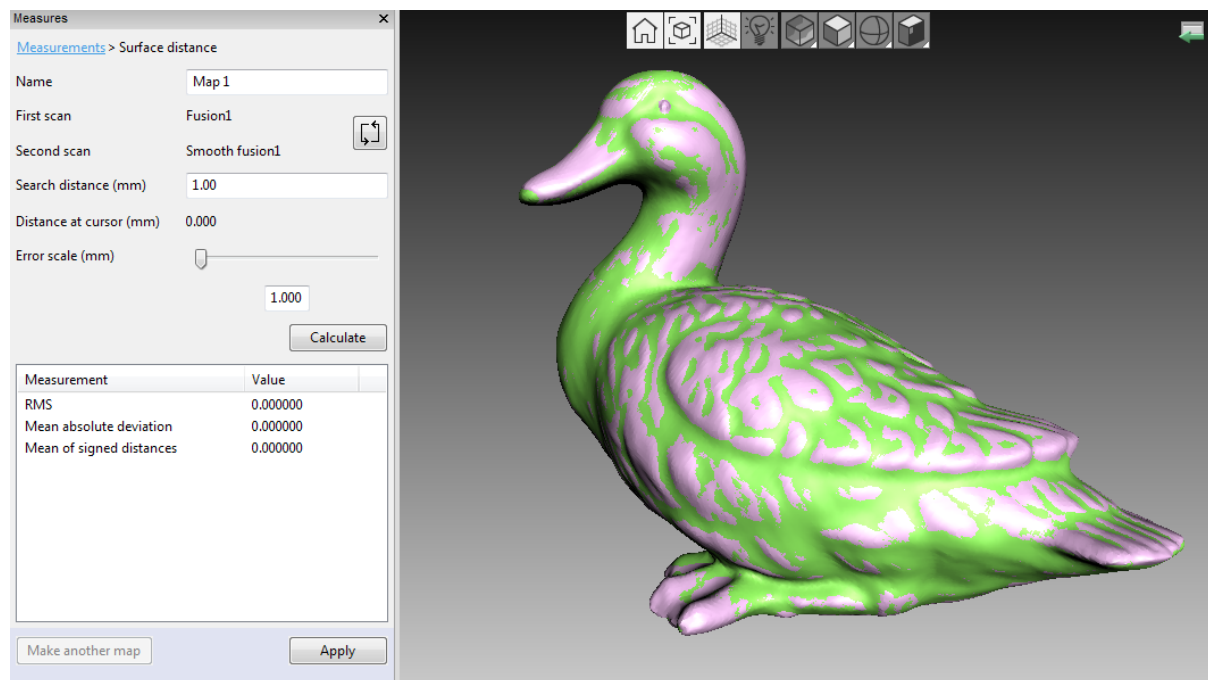

Figure 9.12: Specifying parameters for surface-distance map calculation.
3. If necessary, specify the name of the distance map in the *Name* field of the *Measures* panel (see Figure 9.12). By default the application creates new distance maps under the names Map 1, Map 2 and so on.